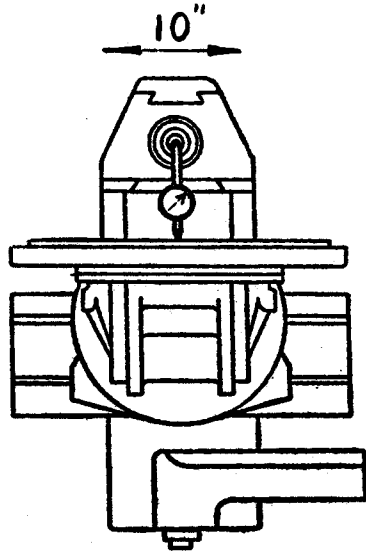

Fig. 1
- (a) **Adjustment for accurate horizontal milling (Figs. 1 and 2).**